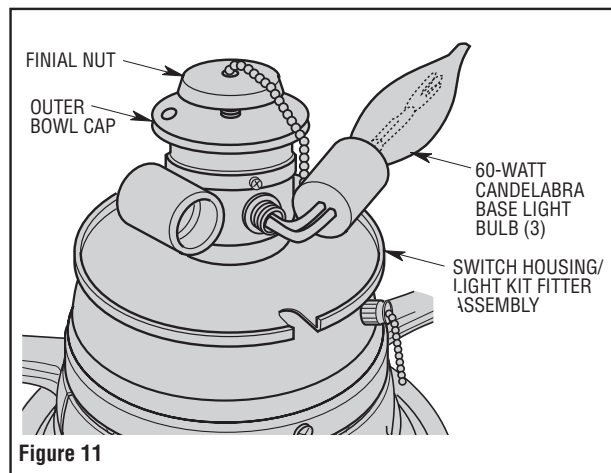

Figure 11
20. Install three 60-watt (maximum) candelabra base light bulbs (included) into the light fitter sockets (Figure 11).